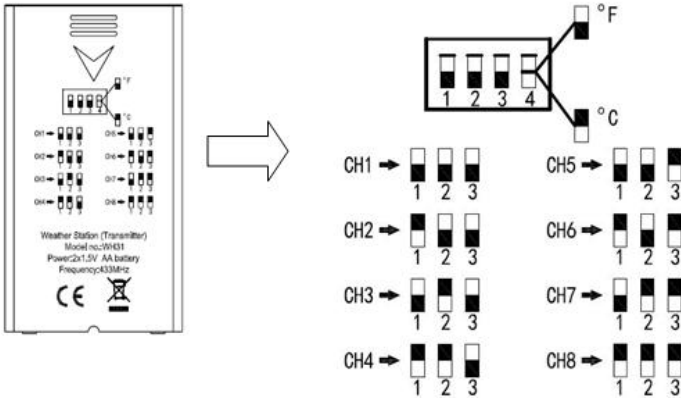

Figure 14: Dip Switch diagram
3. **Channel Number:** The device supports up to eight sensors. To set each channel number, change Dip Switches 1, 2 and 3, as referenced in Figure 14 .
4. **Temperature Units of Measure:** To change the transmitter display units of measure ($^{\circ}\text{F}$ vs. $^{\circ}\text{C}$), change Dip Switch 4, as referenced in Figure 14 .